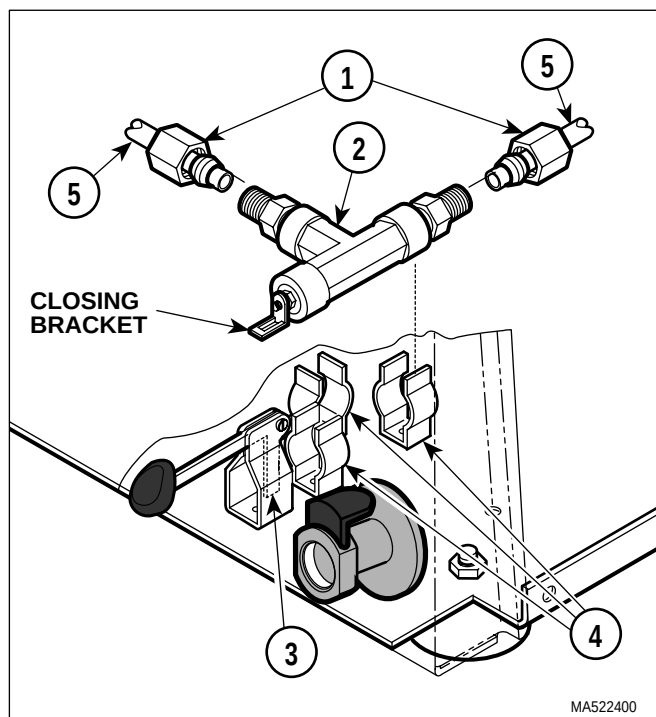

Figure 4-14. Fill / Vent Valve Removal / Installation
- (2) Loosen and disconnect two compression nuts (1, Figure 4-14) from fittings of fill / vent valve assembly (2).
- (3) Disengage closing bracket of fill / vent valve assembly (2) from fill / vent lever (3) by lifting up on back end of fill / vent valve assembly first and then pulling it out of brackets (4).